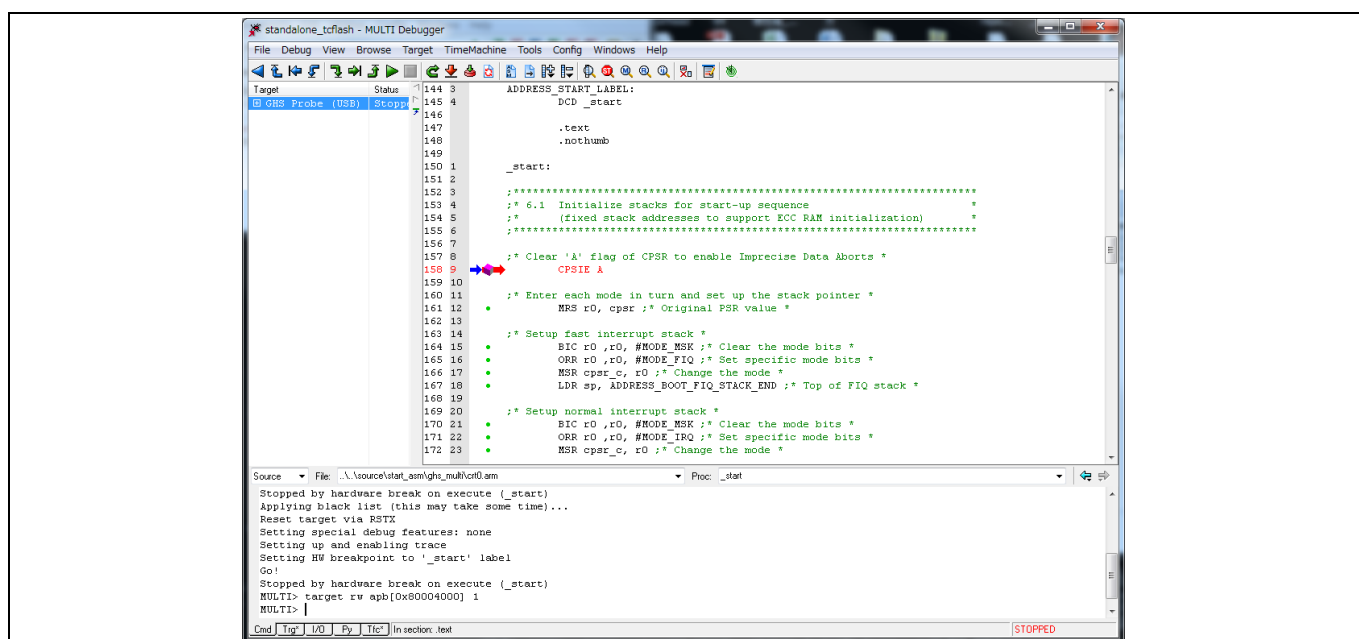

Figure 14 Program execution start
1. Start the GHS MULTI to start debugging, as shown in **Figure 14**.